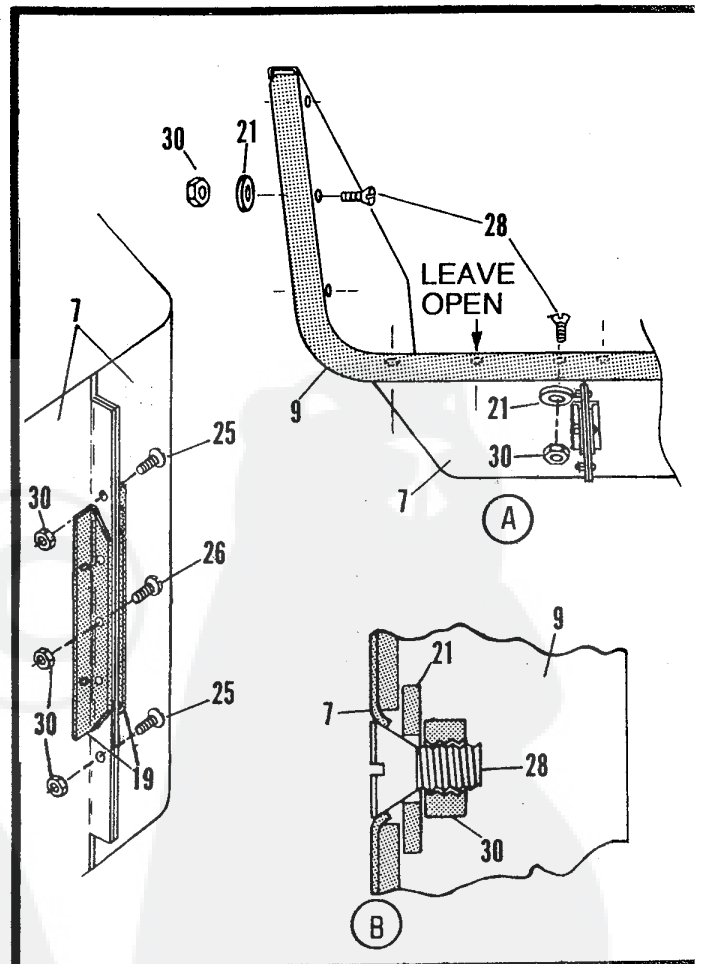
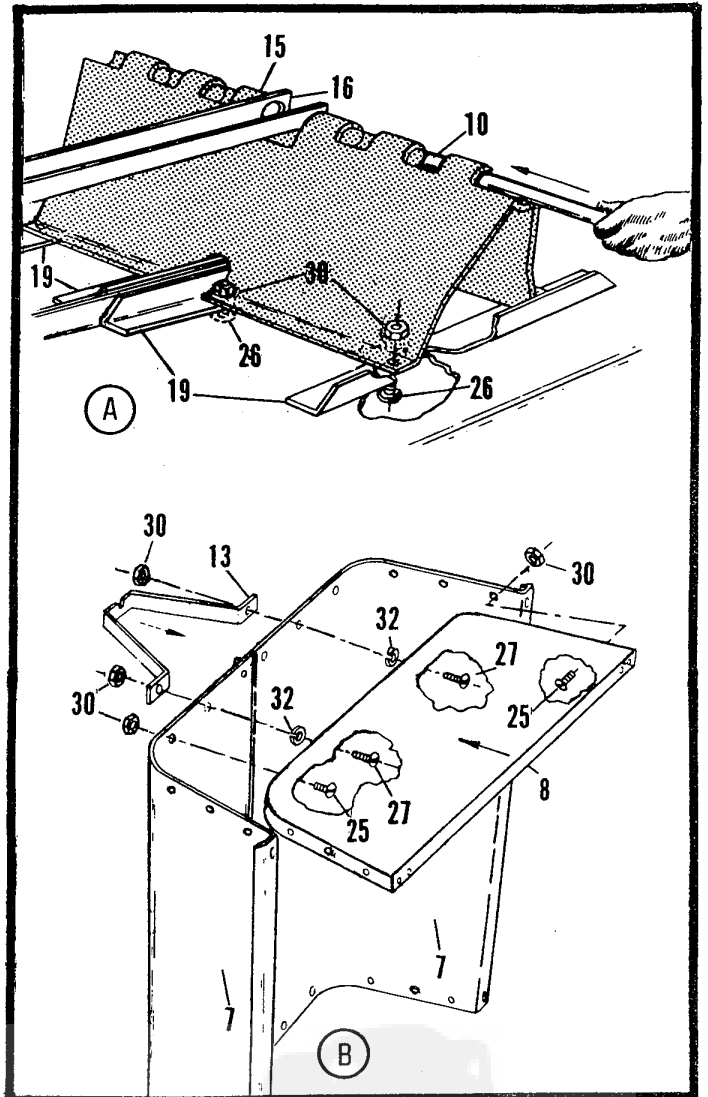

Fig. 1
Fig. 2
Refer to Fig. 1
Refer to Fig. 2
- Attach the Axle Support Bracket (15) to the bottom of the Bed by inserting 5/16" x 3/4" Round Head Screws (26 - from inside Bed) through the two holes in each Bed Half and Bed Support Angle at center of Bed. Secure with 5/16" Hex Lock Nuts (30). Do not tighten!
- Place one Bed Support Angle (19) under each end of Axle Support Bracket (15) and insert 5/16" x 3/4" Round Head Screws (26 - from inside Bed) through the two holes per end, then secure with 5/16" Hex Lock Nuts (30). Do not tighten!
- Align six holes in sides of End Panel and Bed Halves and insert 5/16" x 1/2" Round Head Screws (25 - from inside Wagon Bed), securing with 5/16" Hex Lock Nuts (30). Do not tighten!
- Place two 5/16" Lock Washers (32) inside the "Dimpled" Projections in End Panel (Between Bed Halves and End Panel) and insert a 5/16" x 1" Round Head Screw (27) through these and the Bed Halves.
- Secure with two 5/16" Hex Lock Nuts (30). Do not tighten!
- Align remaining holes in End Panel and Bed Halves and insert 5/16" x 1/2" Round Head Screws (25 - from inside of Wagon Bed), securing with 5/16" Hex Lock Nuts (30). Do not tighten!
- Lay the Cart upside down on a flat smooth surface (to insure a level bed) and securely tighten all fasteners used in Fig. 1 and Fig. 2.
Note: It is necessary to tighten each Flat Head Screw (28) until the head is flush with the bed surface. See illustration "B", Fig. 1.
- While the Cart is upside down, lay the Drawbar (16) (with flanges up) in the Axle Support Bracket (15) "cut-out" and on the Lock Bracket (13). See illustration "A".
- Line up the holes in the two flanges of Drawbar with the Axle Guides formed in the Axle Support Bracket (15).
- Guide the Axle (10) through until there is an equal amount of Axle extending from both sides of Axle Support Bracket (15).